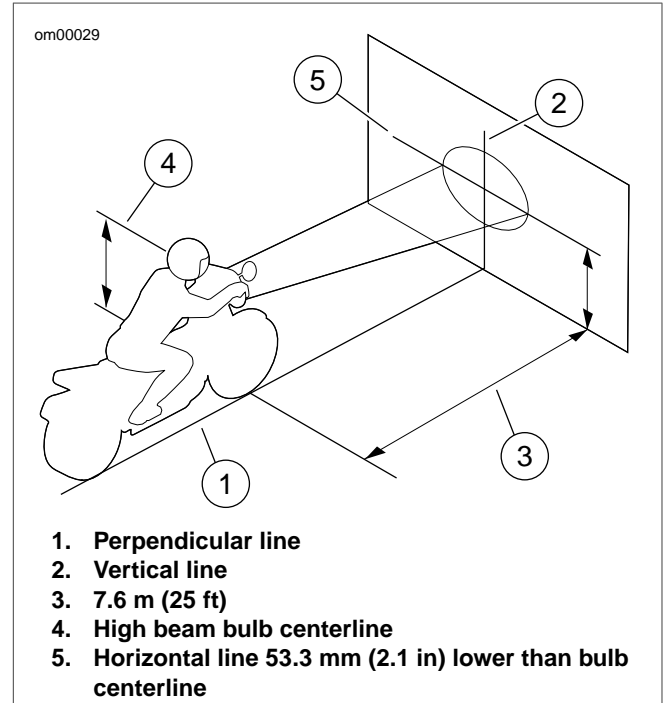

Figure 47. Checking Headlamp Alignment
4. See Figure 47. Park the motorcycle in a line (1) perpendicular to the wall.
6. Draw a vertical line (2) on the wall.
8. Measure the distance (4) from the floor to the center of the high beam bulb.